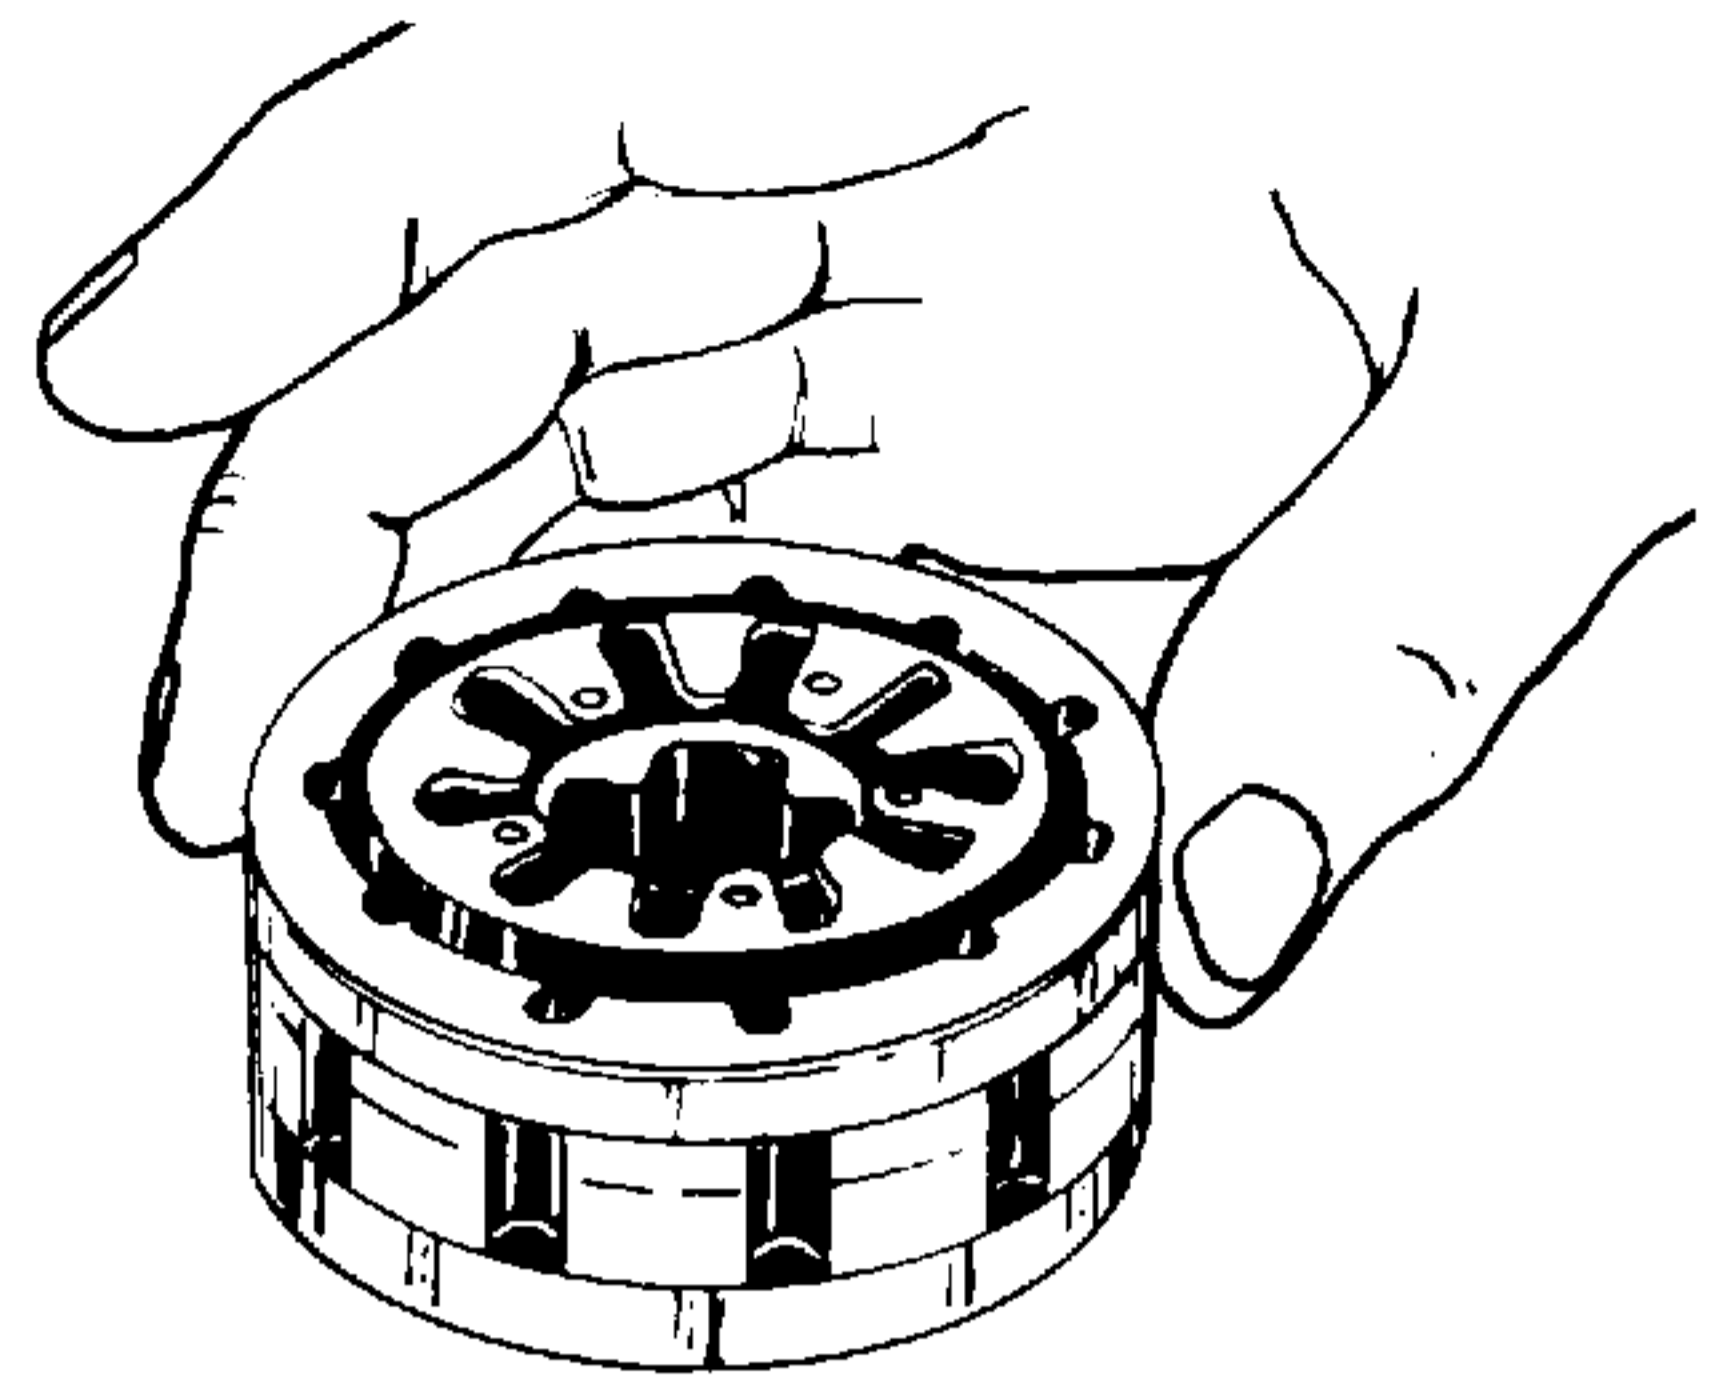

Figure 4-60. Installing Commutator Ring.
14. Place commutator ring (20, Figure 4-1) either side up on top of stator (22). Align commutator ring screw recesses with stator screw slots. See Figure 4-60.